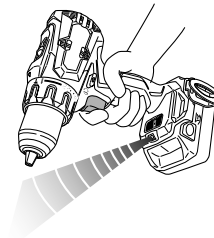

Fig. 19
15. LED light warning signals (Fig. 19)